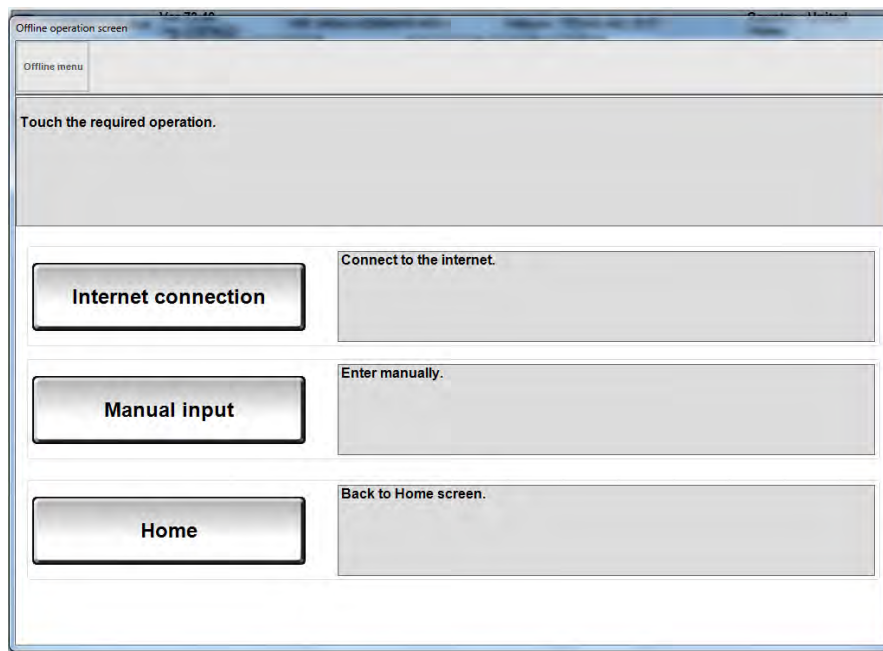

Figure 21
- If the CONSULT PC is not connected to the Internet, the screen in Figure 21 will display.